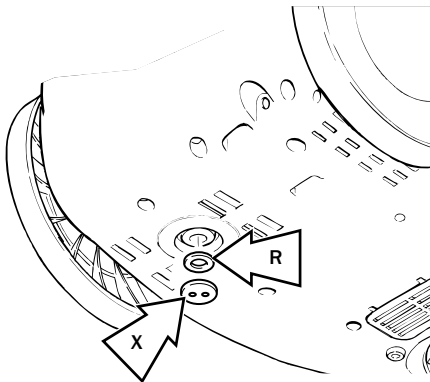

Fig. 18
- Place a container under the machine, then remove plug (X) by turning it counter-clockwise using round nose pliers or the spanner provided (fig. 18).
- Drain the boiler into the container, then refit plug (X) with the relevant washer (R).